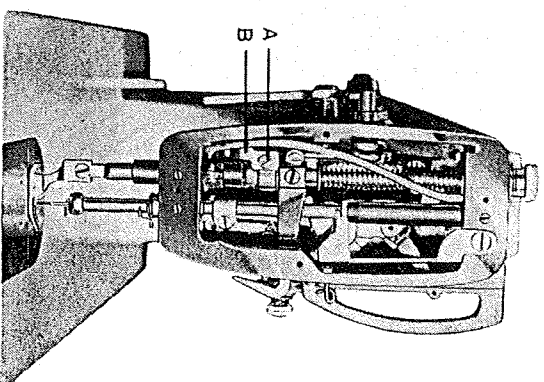

Fig. 13
3. Loosen screw A (Fig. 13) to adjust regulating arm B. Set the height of arm B so that there will be upper thread tension when the presser foot is lifted for tacking. The upper thread tension must be completely released only when the presser foot is in fully raised position.